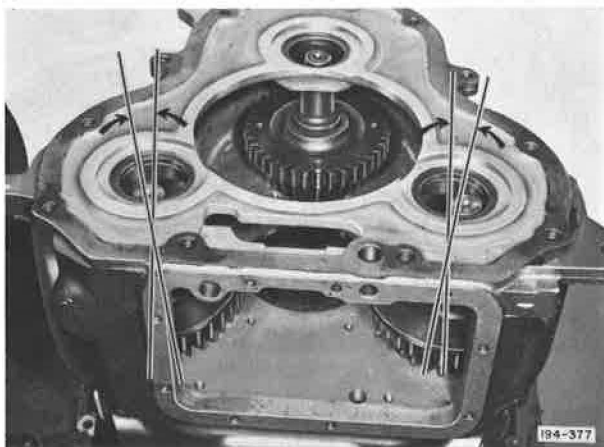

Figure 5-160. Compound Countershafts Tilted to One Side
7. (TRDXL1070) Position thick thrust washers loosely on each of the two upper compound countershaft Hi-range gears, (split shims to be added later). Install upper compound countershaft assemblies in compound case and tilt assemblies to one side. See Figure 5-160. (Tilting countershafts to one side will facilitate installation of compound main driving pinion).